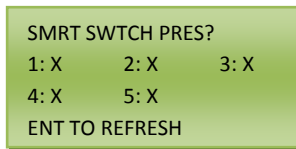

Figure 18.1
- a. This action allows the user to see how many Smart Switches are presently hooked up to Time-Keeper®. See Figure 18.1 for an example.